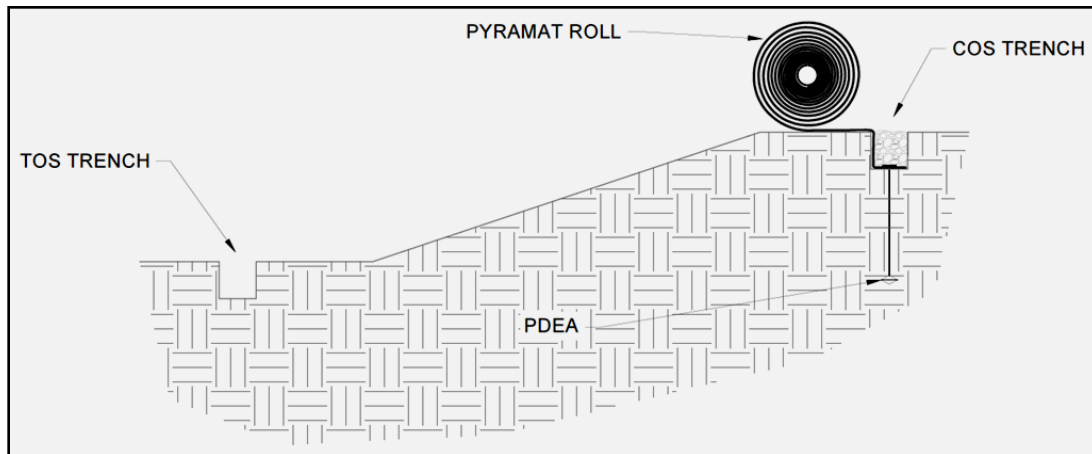

Figure 14: Crest of Slope (COS) Trench Placement
4. Backfill and compact the COS trench in the location of the first Pyramat panel only (Figure 14).